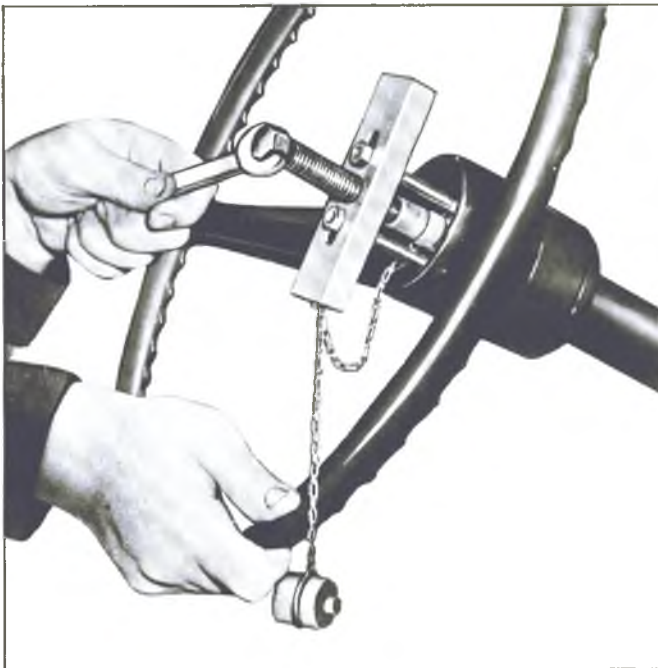

Fig. 42—Steering Wheel Removal Typical
4. Use Tool J-2927 to remove wheel (fig. 42).